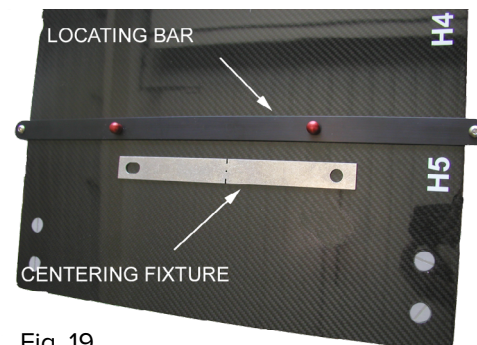

Fig. 19
1. Install the Locating Bar on the CT Overlay and then set the Centering Fixture Bar on the Locating Bar at the head or foot end of the CT Overlay (Fig. 19).